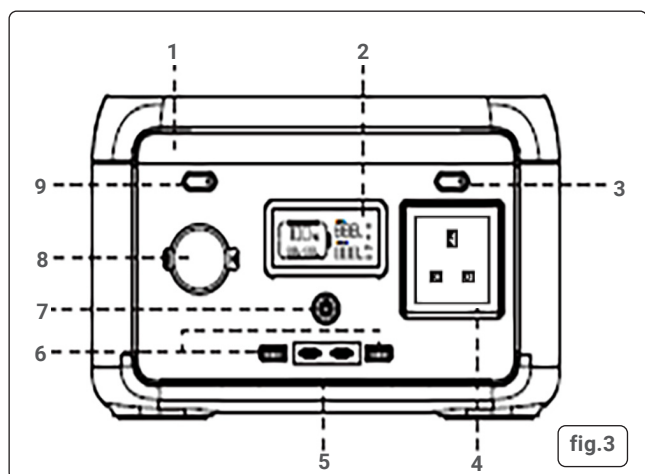

Figure 3 Key
OPERATION (fig.3)
AC OUTPUT (fig.3)
DC OUTPUT (fig.3)
- **BATTERY CHARGING PROCESS** (fig.3)